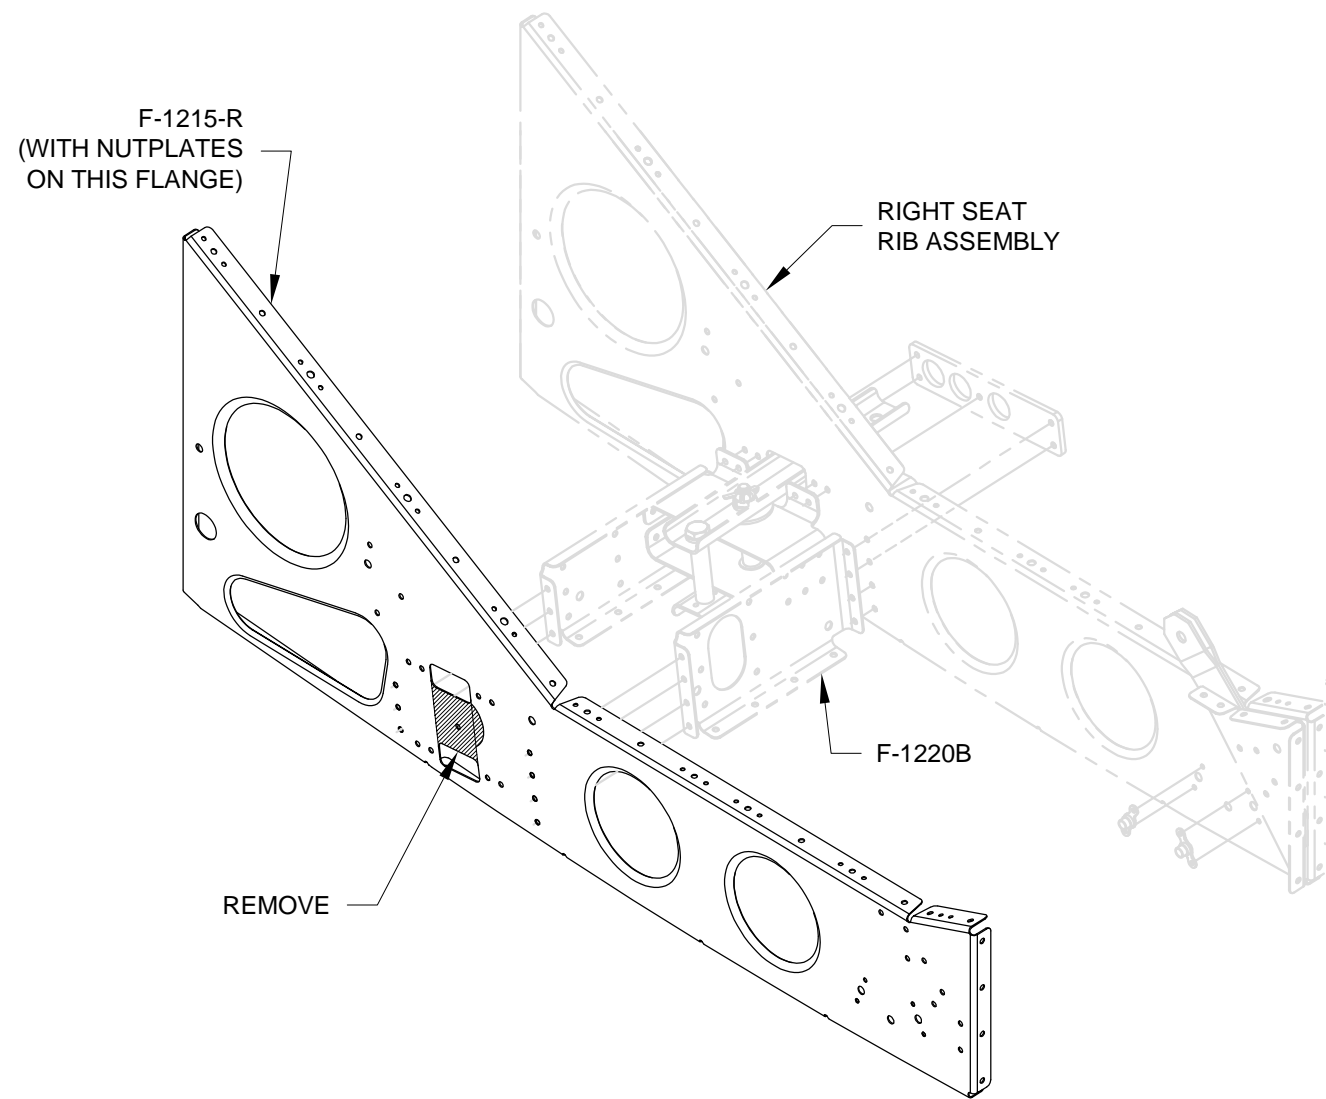

FIGURE 1: TRIMMING THE SEAT RIB
Step 1: Trim the called out F-1215-R Seat Rib by removing the material shown hatched in Figure 1.